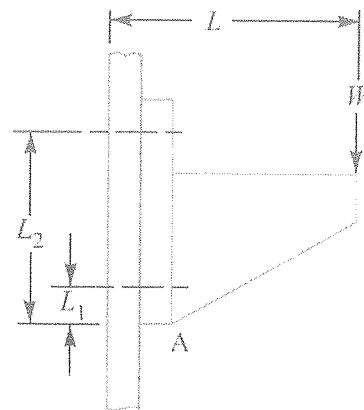

Figure Q2
- (iii) The wall bracket shown in Figure Q2 is supported by four bolts at a distance of L_1 and L_2 from the point A . Explain the calculation steps required to determine the diameter of the bolts.